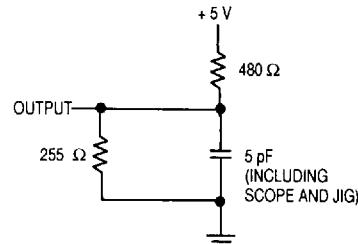

Figure 1b
5. Transition is measured  $\pm 500 \text{ mV}$  from steady-state voltage with load of Figure 1b.
5. Transition is measured  $\pm 500$  mV from steady-state voltage with load of Figure 1b.